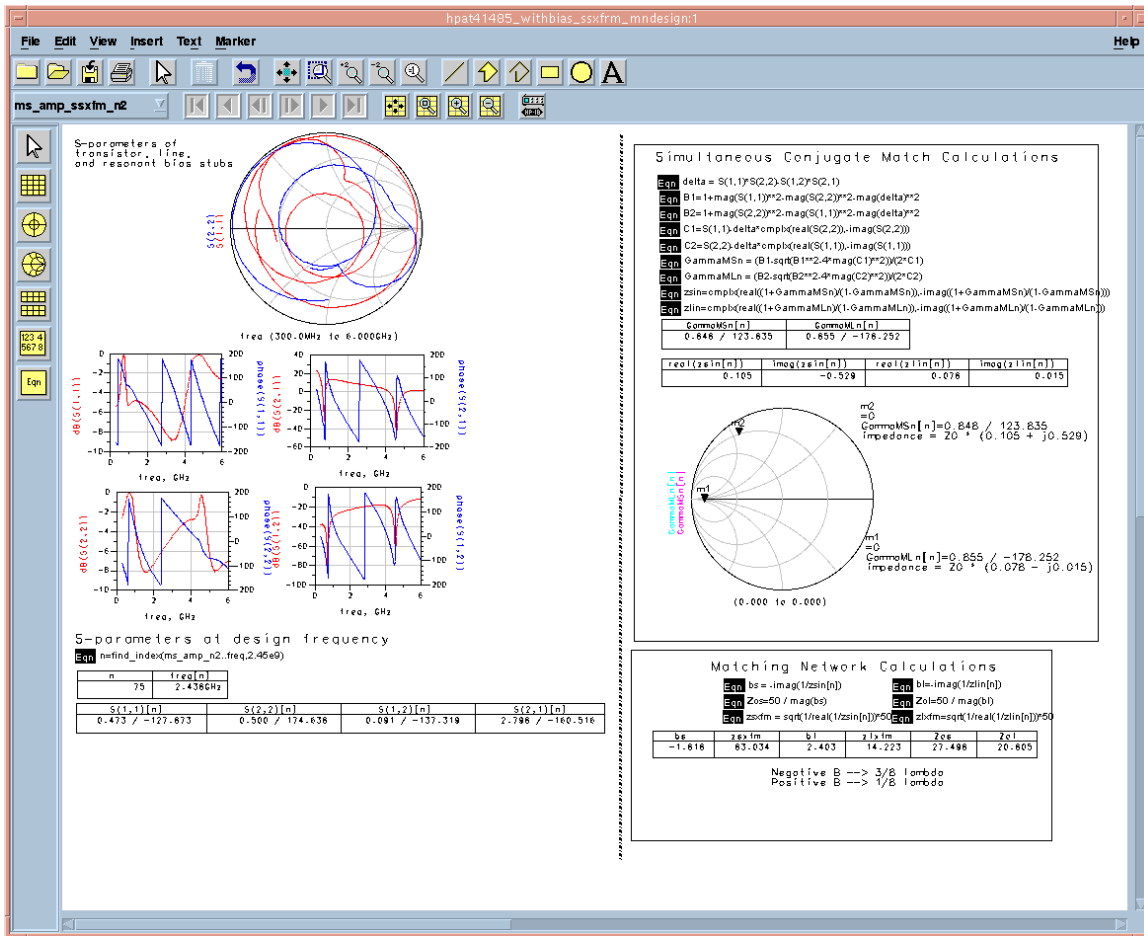

Figure 1. Example data display window with equations.
- b.) You may find it convenient to use equations on the data display page to calculate conjugate matching conditions, shunt susceptances, stub characteristic impedances, etc. Note: one way to find the complex conjugate is the expression "conj(A)" in ADS. An example data display page that calculates the possible matching networks for a single-stub tuner with quarter-wave transformer section is shown in Figure 1; you may use this as an example of the syntax, etc, for the display page in ADS.